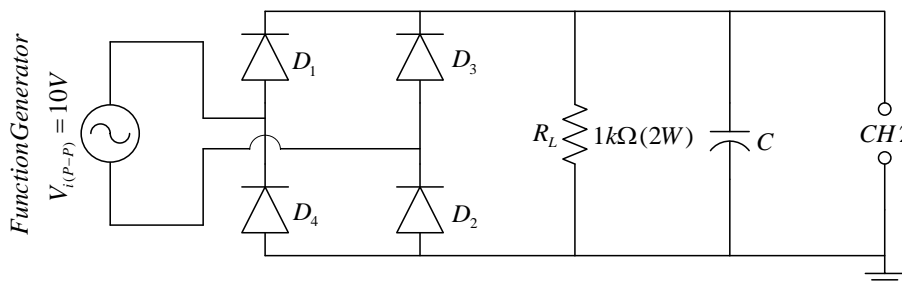

Fig 4.3 Full wave rectifier with capacitor filter
5. Now connect the circuit as shown in Fig 4.3 and place capacitors as required by table 4.1.